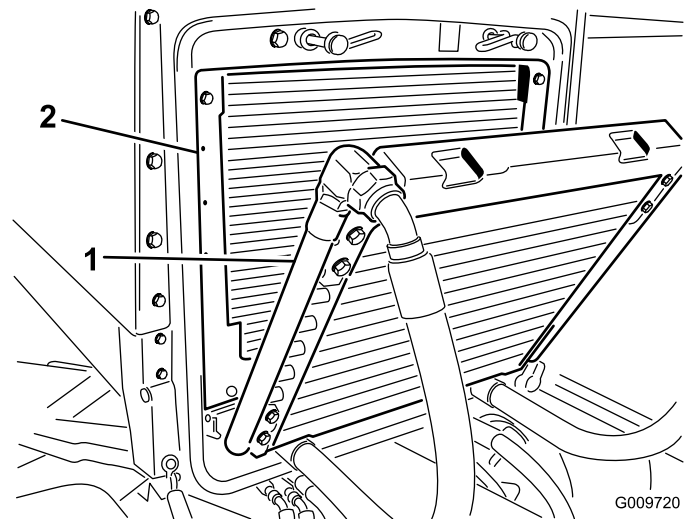

Figure 51
4. Clean both sides of the oil cooler and radiator area (Figure 51) thoroughly with compressed air.